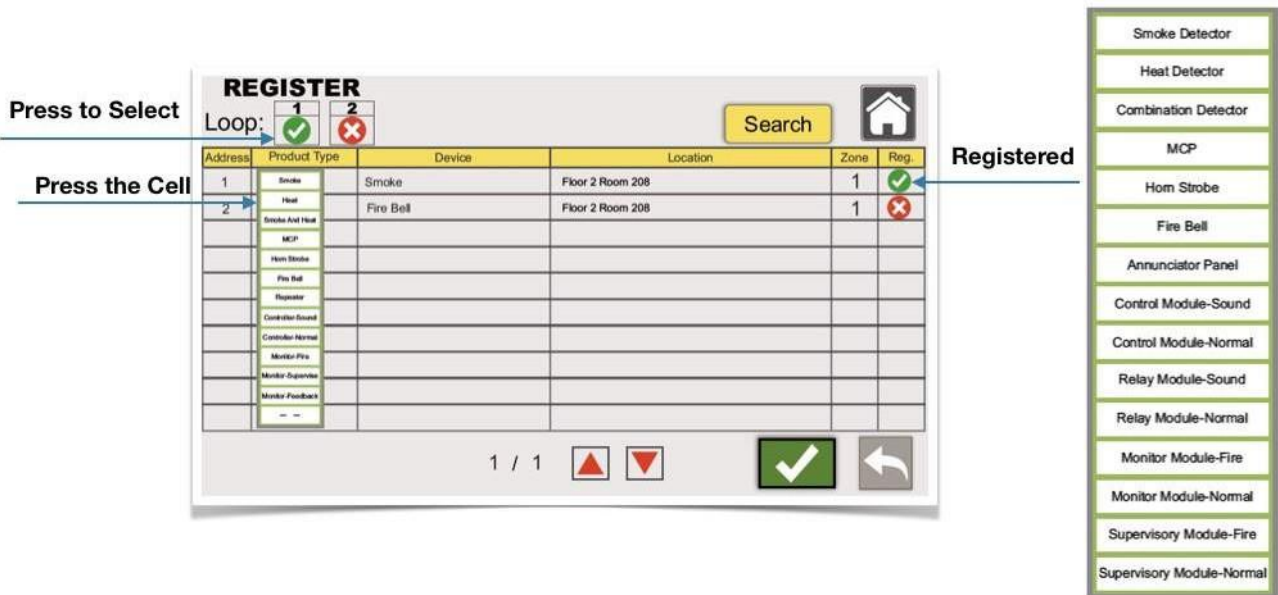

Figure 3.15 Selection of Product Type
As shown in Figure 3.15, window has information for all devices’s addresses , location and status, if it is registered or not.
Step 1 : Choose the Loop first to which user is going to assign addresses. ‘Green right click’ represents selected (current loop) and ‘red cross’ means this loop is not selected at this moment, refer Figure 3.15.
Step 3 : When address is assigned to specific device, in the second column Product Type can be selected from the drop down list as shown in Figure 3.15 after clicking anywhere in the cell. Type of product , like smoke, heat or combination etc. can be assigned depends on the device type which is Step 4.
Step 4 : In the Device column, device name can be selected after clicking anywhere in the cell, refer Figure 3.15. It will give you the list of the Device Names, which you already provided in Device Settings (3.3.1.2.4). It will automatically show its zone number.